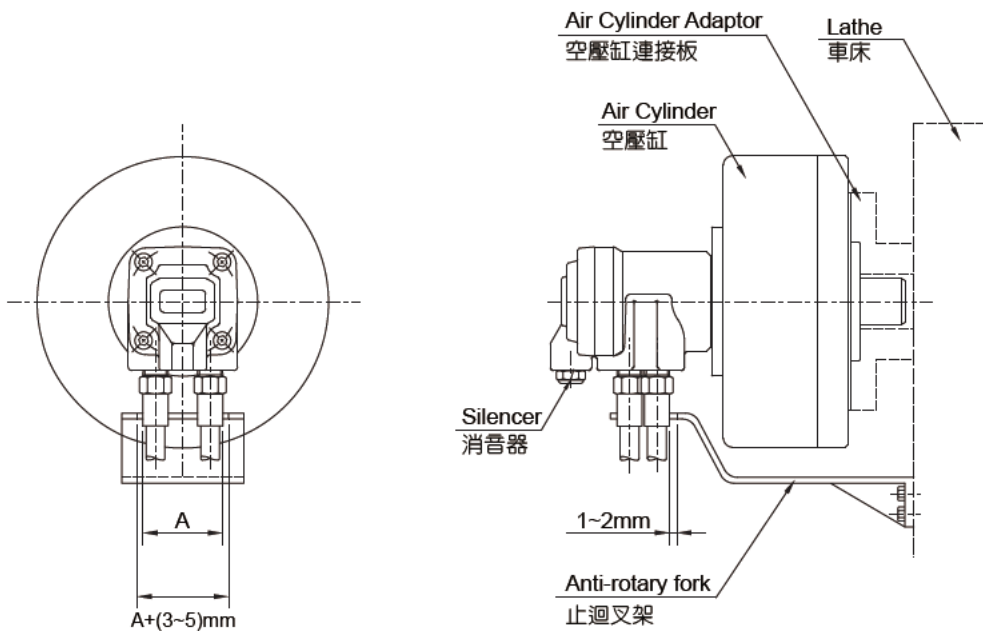

Fig.6
- Be sure air cylinder near the spindle support of the lathe.(see Fig.6)